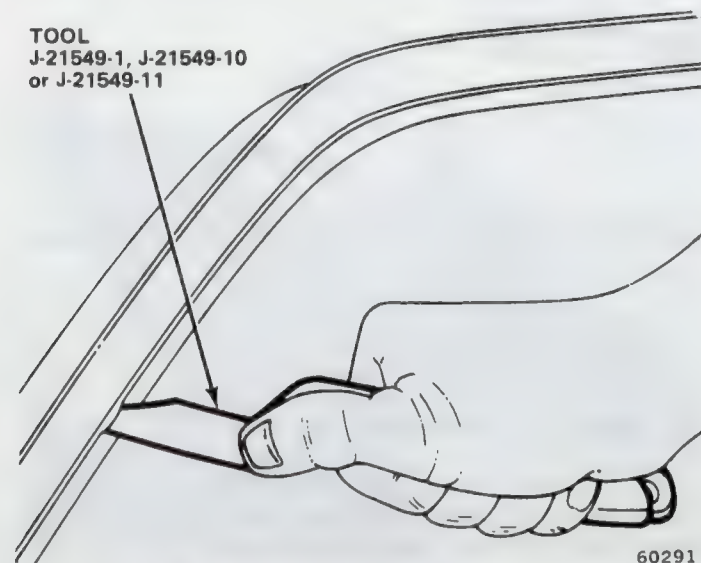

Fig. 3K-10 Reveal Moulding Removal—Typical
NOTE: Remove reveal moulding using Reveal Moulding Remover Tool J-21549-1, J-21549-10, or J-21549-11 as shown in figure 3K-10.
(1) Insert Tool between moulding and glass, parallel with glass.
(2) Pry moulding from clips with a rolling action (fig. 3K-10).
(3) Apply foot pressure and slowly push glass outward along top until butyl seal stretches 1 to 2 inches.